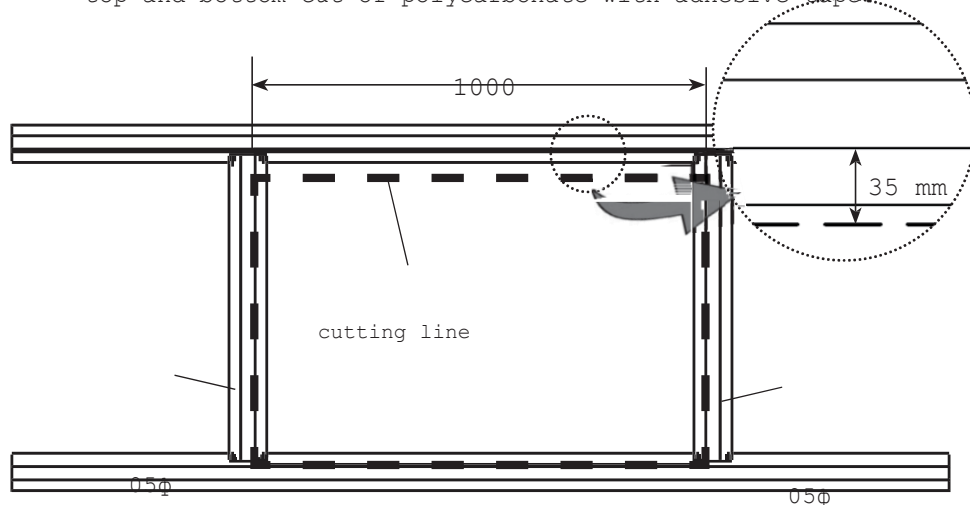

Fig.1
Mount two guides 05φ in that place (Fig. 1) on balks using available holes.
2. Cut an opening for small window (Fig. 1). Make a top edge of polycarbonate opening with 35 mm offset from the balk. Cover top and bottom cut of polycarbonate with adhesive tape.